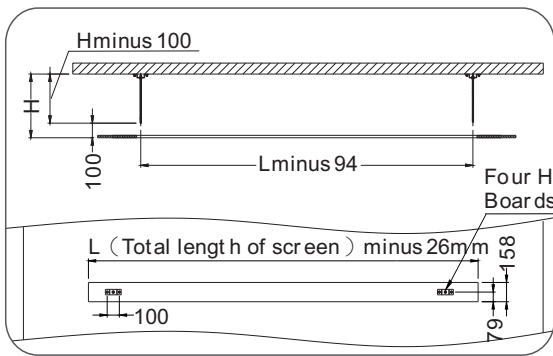
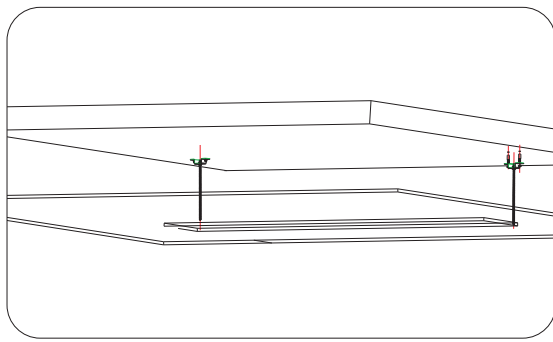

Figure 4
Figure 5
3.Please measure the security distance between hanging brackets (figure 4), and fix the hanging brackets on the ceiling using expansion screws (figure 5).